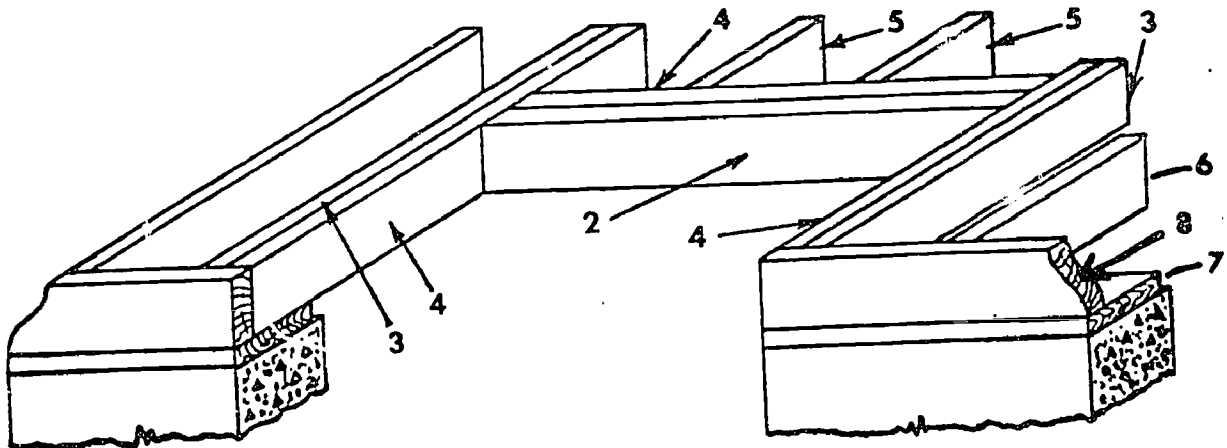

Fig. 23
31. In the illustration figure 23 the member(s) labelled number 1 is (are) called which of the following?
34. In figure 23 of a stairwell opening, which number would correspond to the third member(s) to be installed when making a stairwell?
35. In figure 23 of a stairwell opening, which number would correspond to the fifth member(s) that would be installed by the craftsman when making 2 stairwell?